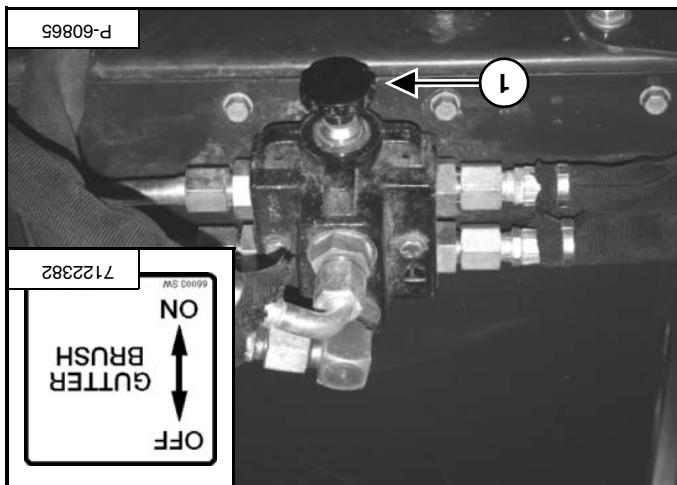

Figure 71
when the auxiliary hydraulics are engaged. Pull the knob [item 1] [Figure 71] into the ON position. The gutter brush will start to turn with the sweeper brush